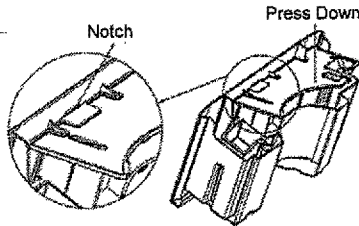

Fig. 5
2. Open the drain connector door (Fig. 5)
3. Thread a garden hose (sold separately) onto the DRAIN CONNECTOR NOZZLE located inside the drain connector door. (Fig. 5)
(Fig. 5)